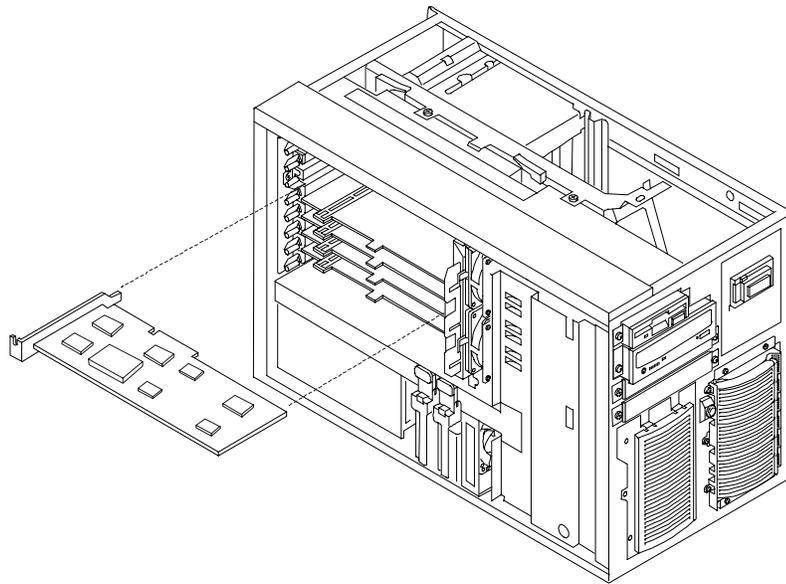

Figure 6-5. Installing an Accessory Board
12. Align the board with its slot, along its full length, and position it into the slot (see Figure 6-5).